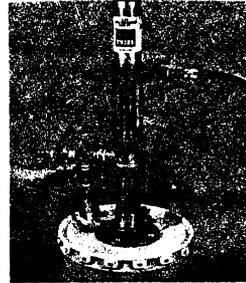

FIGURE 21
9.10 Open relief valve No. 2 and air input valve No. 1 to circulate cleaning solvent for five minutes through valve No. 2 and the recirculation hose. (See Figure 21)